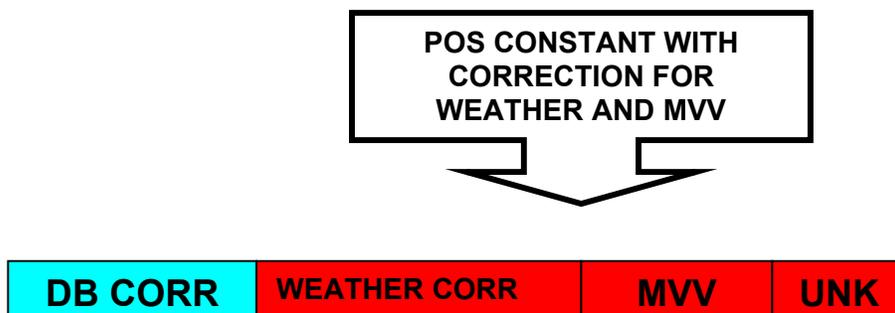

Figure 6-3.
- i. Conduct new registrations to determine corrections for the new prevailing conditions. This action is required because the position constant has not been isolated. For example, in figure 6-3, the correction for weather and MVV, as well as that quantity of correction determined in the registration and not able to be attributed to any measurable effect is all part of the registration correction.
reflects the condition of the registration correction from figure 6-3 after concurrent met procedure has been carried out.